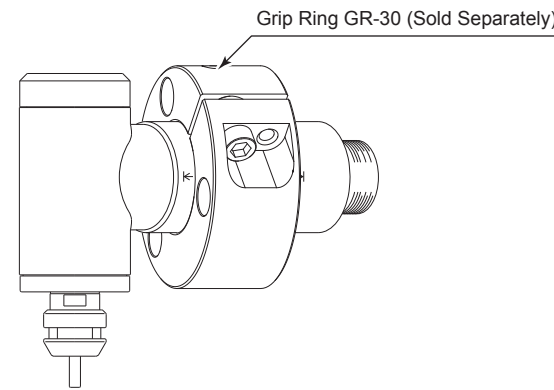

Fig. 9
\* When installing the Spindle, it is recommended to use a "GR - 30 Grip Ring (sold separately (Fig. 9))". If the GR - 30 Grip Ring cannot be used due to the restriction of dimension and space, install as shown in ② below.